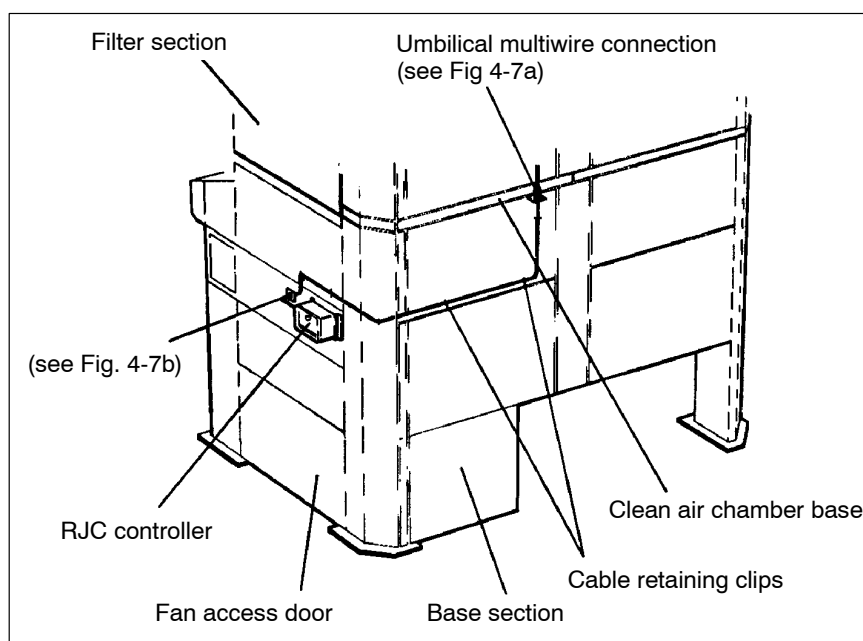

Fig. 4-6 RJC controller lead connection between base and filter sections
**NOTE:** On each joint line a number of fixings are positioned within the clean side of the filter section, some of which are only accessible from within the base section (Fan access door to be removed to gain internal access – see Fig. 4-6). Additional access may be gained by removing access plates located in the clean air chamber base. Ensure these plates are replaced on completion of joint (apply sealant as required).
Remove the protective cap from the umbilical multiwire lead (originating from the solenoid enclosure located in the filter section). Connect the plug/adaptor plate and gasket to the clean air chamber base (see Figs. 4-6 and 4-7).